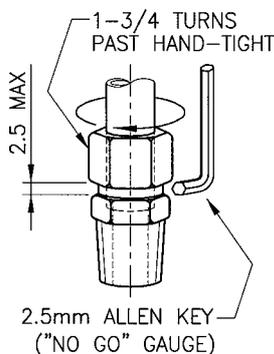

Figure 7
1. Tighten nut on 1" NPT bored through compression fitting as shown in figure 7
5. Remove tape from conduit, refit compression tube fitting to conduit. Tighten nut on fitting as shown in figure 7